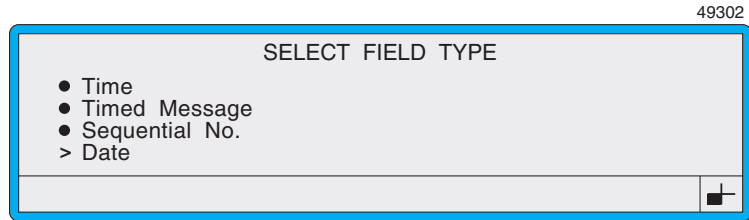

Figure 4-30 Select Field Type Menu: Date Option
3. Scroll to the **Date** option (as shown in Figure 4-30 above), then press the [enter] key.